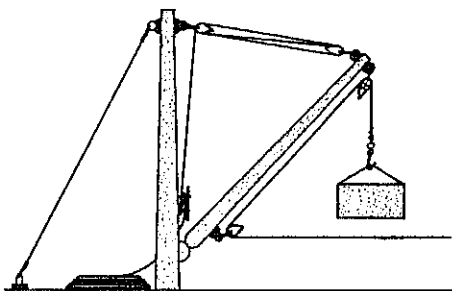

Figure 1A.--Height of mast from boom gooseneck = 20 feet
To answer items 1-22 through 1-26, you will find it helpful to draw a vector triangle of the forces at work on the different components shown in figure 1A. Information on how to do it can be found under the subheading "Booms, Topping Lifts, and Stays," in Chapter 2 of the textbook.
- 1-22. Assume the boom shown in figure 1A has a safe working load (SWL) of 4 tons. If a 3-ton load were hoisted, what would the force on the boom be relative to the SWL?
- 1-23. In the problem presented in figure 1A, what are (a) the type and (b) the amount of force exerted on the boom?
- 1-24. What component shown in figure 1A has the greatest force exerted upon it?
- 1-25. In figure 1A, what is the approximate amount of compression on the mast?
- 1-26. You are operating the boom shown in figure 1A with 3-ton loads. You know that the stay will stand a tension of 4 tons. To operate the boom safely, what action must you take?